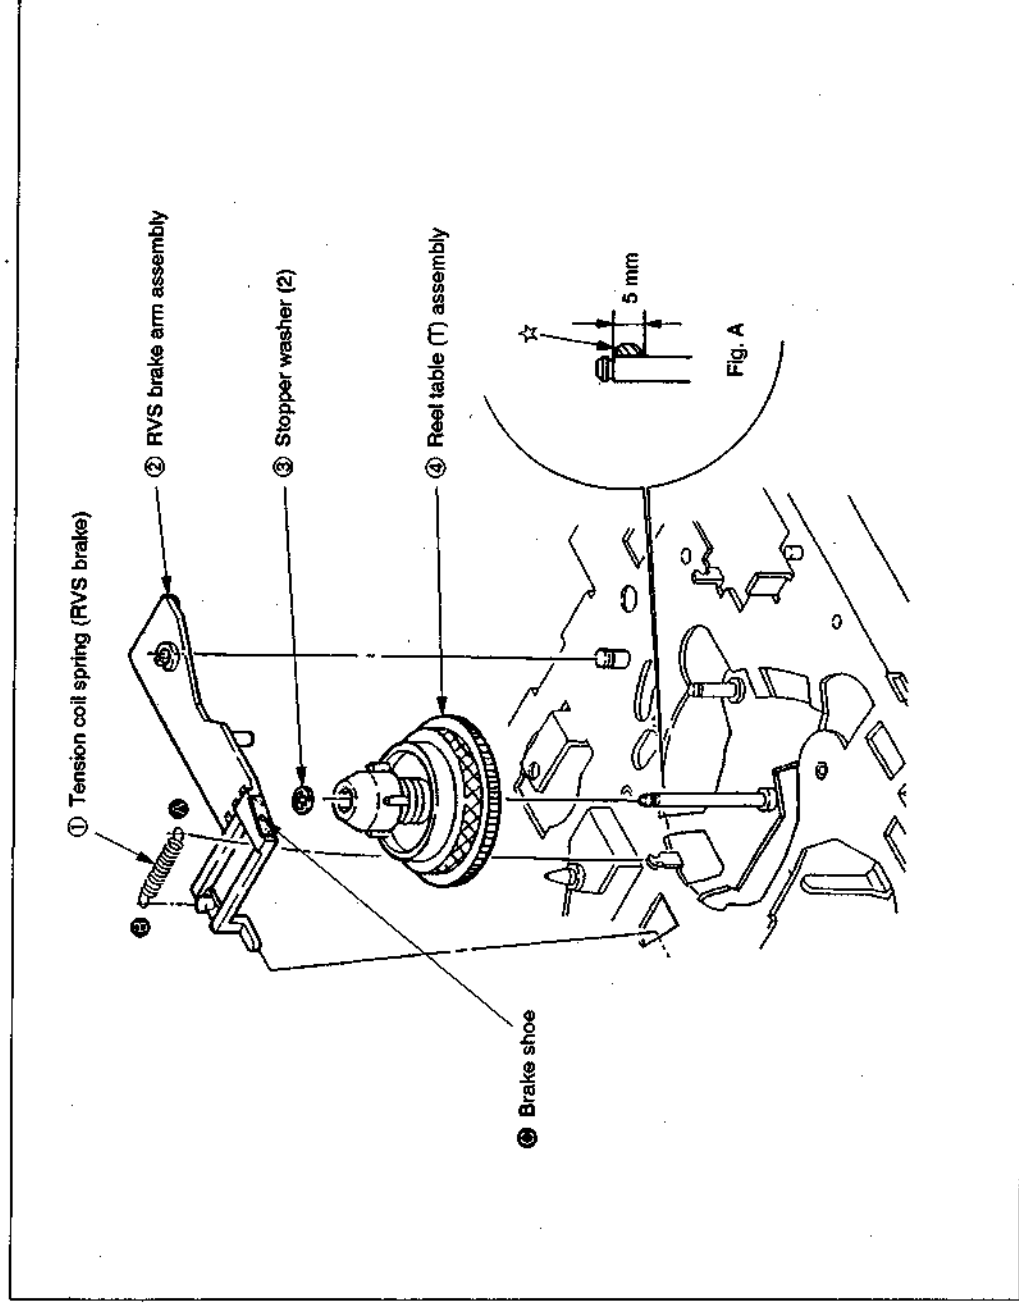

Fig. 3-14
TABLE (T) ASSEMBLY (Fig. 3-14)**
- 3) Remove tension coil spring ① in the order Ⓐ to Ⓑ.
- 4) Remove RVS brake arm assembly ②.
- 5) Remove stopper washer (2) ③ to pull out reel table (T) assembly ④.